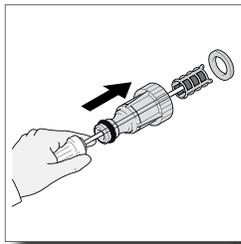

Fig. 14
- The screen inside the clear adapter should be cleaned periodically. Insert a pen or pencil in the small hole at the end of the adapter. The screen filter will slide out (Fig. 14). Rinse it with clean water, and then place it back in the adapter.